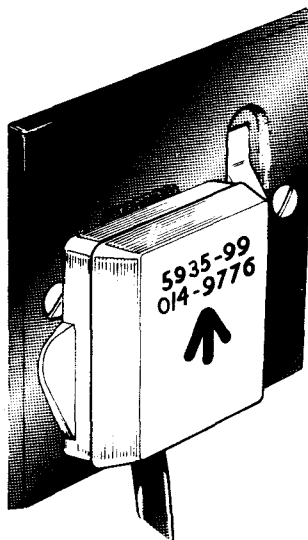

Fig 23.9 Government property mark
21. **Theft.** As a safeguard against embezzlement, and to assist in the detection of persons concerned in the theft of equipment, many items are marked by the manufacturer with the Government property mark — a broad arrow. This applies in particular to those items that are attractive and are likely to be pilfered. Fig 23.9 shows an item marked in this way. Where the Government property mark on items held in stock has become indistinct, such items should be re-marked in such a way that no damage is caused to the item. Similar action should be taken by inventory holders for items held by them.